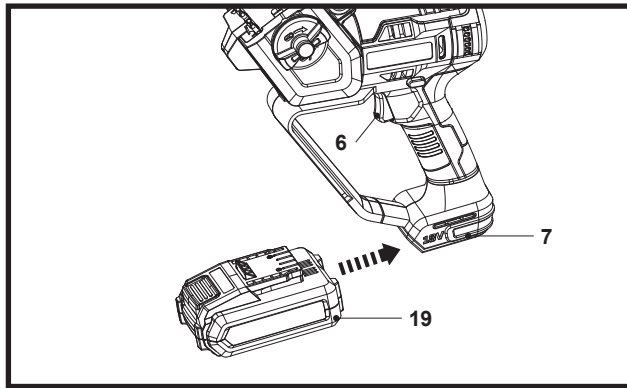

Fig. 8
1. Ensure that the on/off switch (6) is not pressed.
2. Align the two straps of the battery pack (19) with the two sliding slots of battery docking port (7) and slide the battery pack (19) in to attach it (Fig. 8).